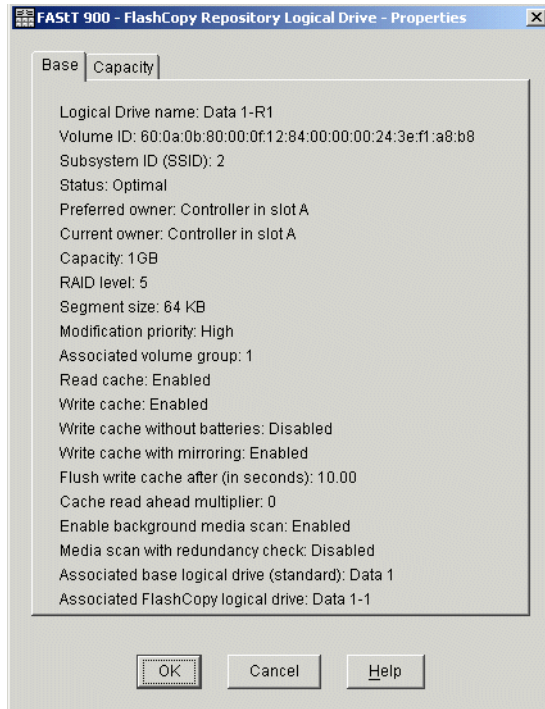

Figure 7-1 FlashCopy Repository Logical Drive Properties
2. Click **Logical Drive -> Properties**, or right-click and select **Properties**. The FlashCopy Repository Logical Drive - Properties window opens (Figure 7-1).